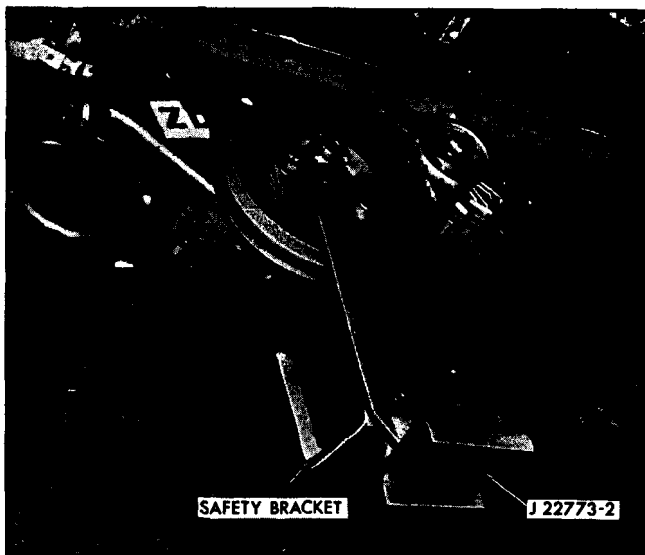

Fig. 6-10 J 22773 Installed
2. Bolt J 22773 (Firebird) or J 22345 (Tempest) Engine Support Bracket to front of harmonic balancer (Fig. 6-10).
CAUTION: Safety bracket must be bolted to Firebird engine lifting tool whenever in use to prevent engine from moving while in the raised position (Fig. 6-10).